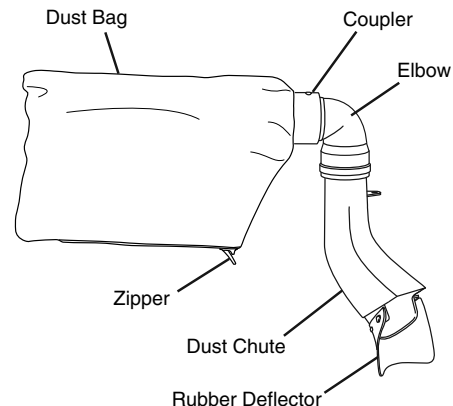

Figure 7
**Cleaning Dust Bag** – After the dust bag is 2/3 to 3/4 full, remove it from the saw. Bring the bag to a proper container and pull open the zipper located on the bottom of the bag. Hold the bag by the coupler end and shake it vigorously until all the dust and debris fall from it. Close zipper and reattach the bag. NOTE: Clean the bag at the end of the cutting session and before transporting or storing the saw (see Figure 7).